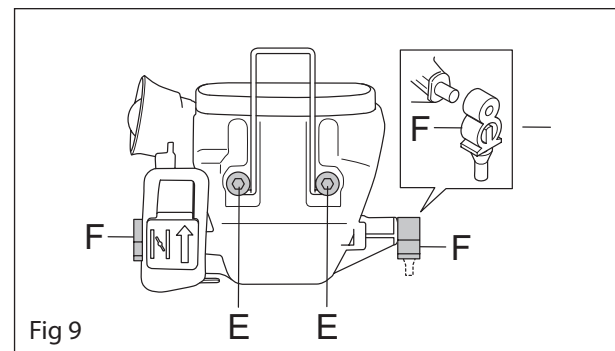

Fig 9
4. Remove the screws (E). Unhook the rubber attachment (F) on both sides. See figure 9.